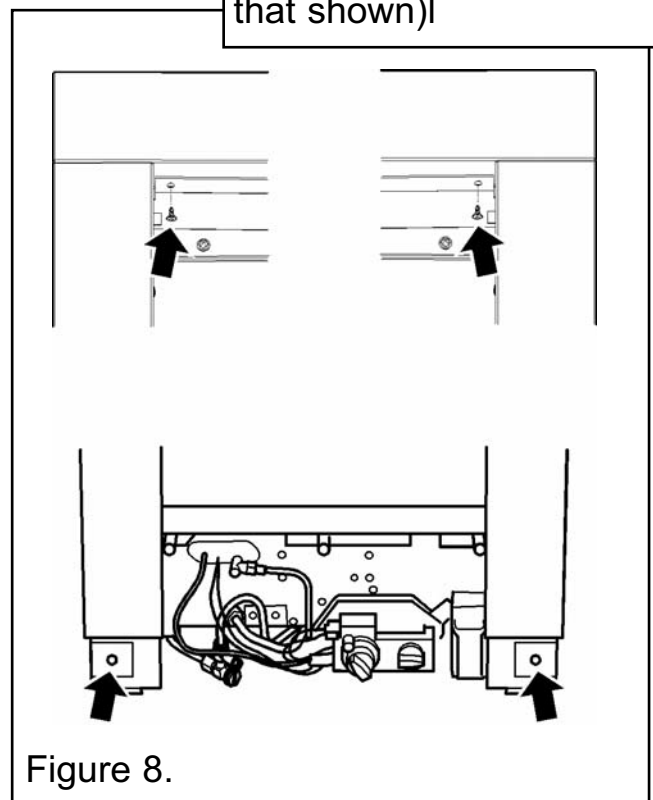

Figure 8.
6.2.2 Fascia removal on the Chic model (See figure 8).